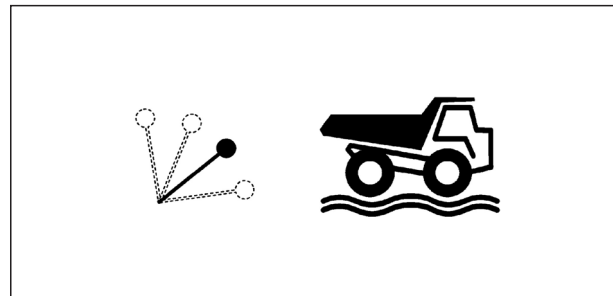

Fig 4.13
2. Make sure the body control lever is in the 'FLOAT' position.(see Fig 4-13).